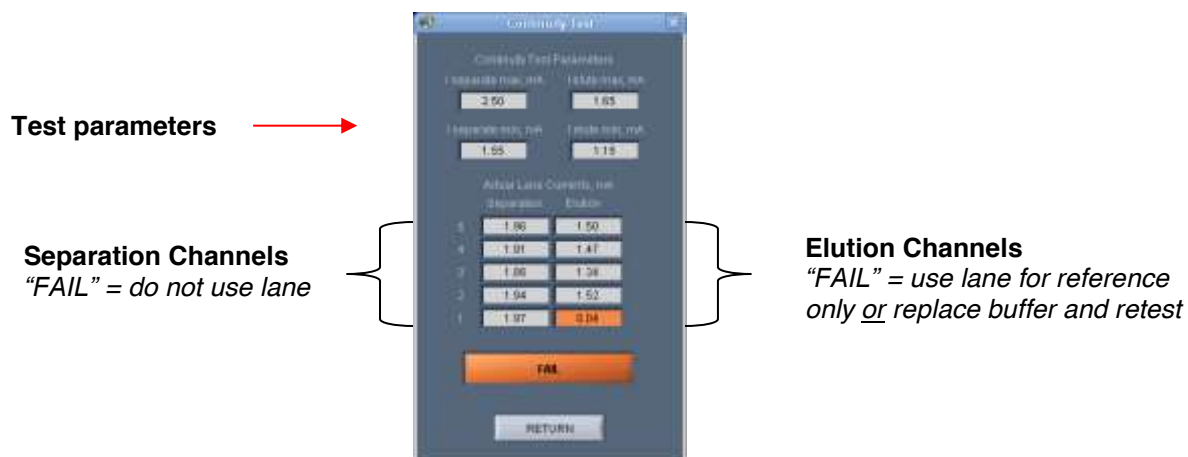

Figure 6.5. The Continuity Test screen. The elution channel in lane 1 has failed
1. A failed test is indicated by a “FAIL” message, and the failed channel is highlighted in orange. **Figure 6.5** shows a failed test screen (elution channel in lane 1).